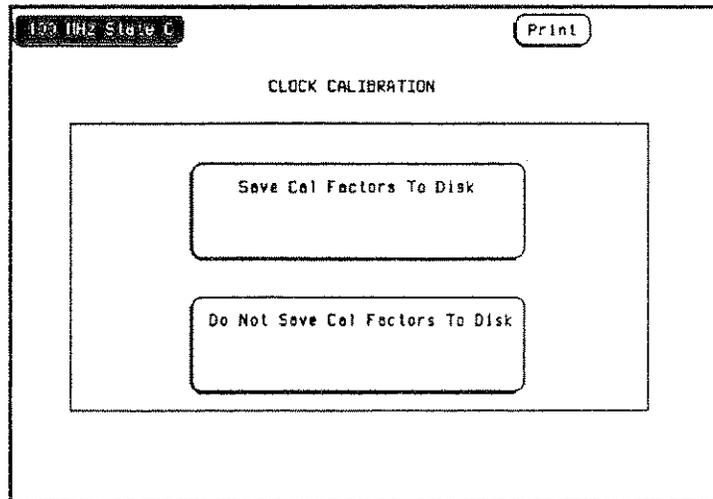

Figure B-12. Save The Calibration Factors
9. When the calibration is complete, the choice is given to save the calibration factors or to not save the calibration factors, as shown in figure B-12.